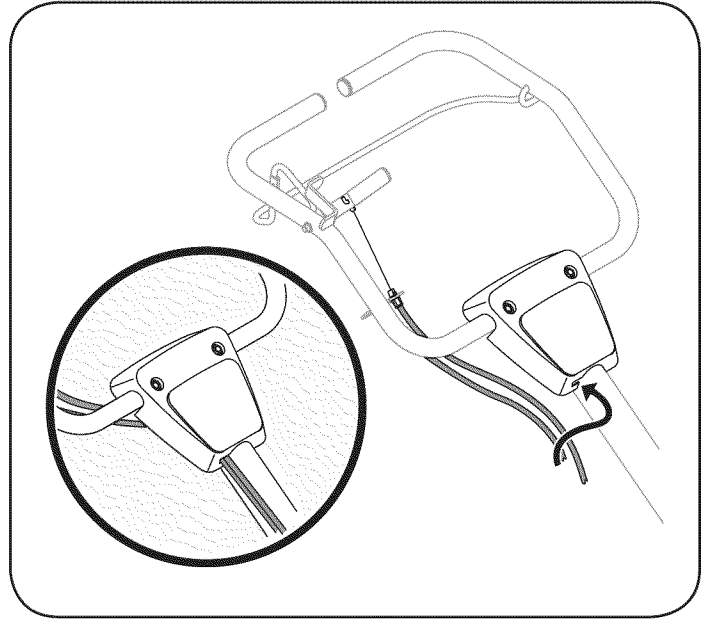

Figure 4
5. Clip the cables into the cable guides located on the handle assembly panel as seen in Figure 4.